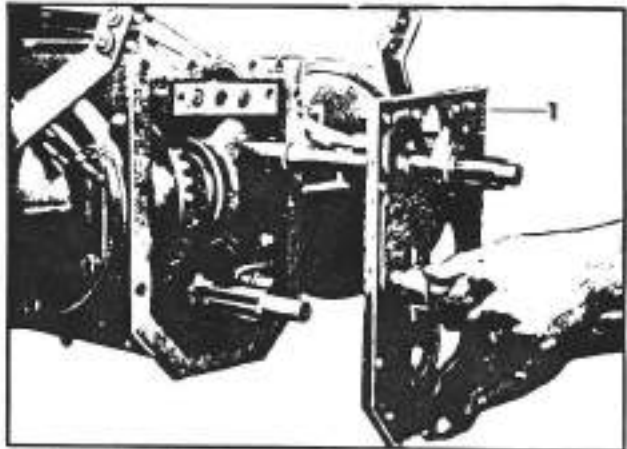

Fig. 3-23. Removal of the intermediate plate
- r. Take out the two lock nuts of the intermediate plate (1, fig. 3-23) and remove it with its respective gasket.